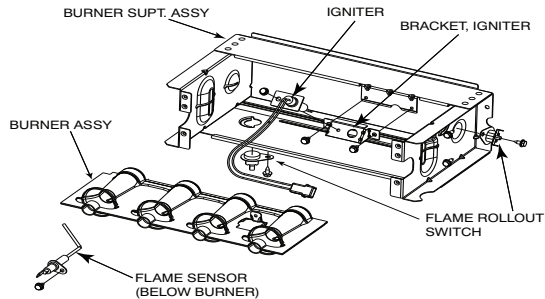

Fig. 3 – Burner Assembly
- Remove wires from both rollout switches, see Fig. 3.
- Slide one-piece burner assembly out of slots on sides of burner box, see Fig. 3.